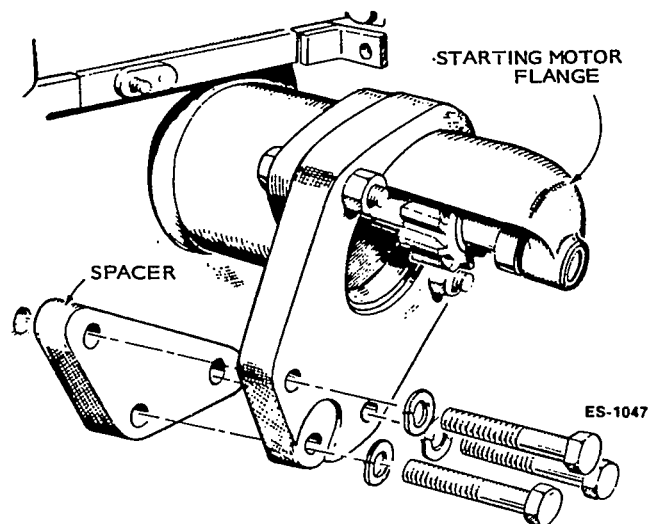

FIGURE 35. STARTING MOTOR FLANGE
11. If necessary to remove starting motor flange (Figure 35), watch for shims between flange and crankcase surface. Save any shims, as they must be reinstalled to position the starter correctly.